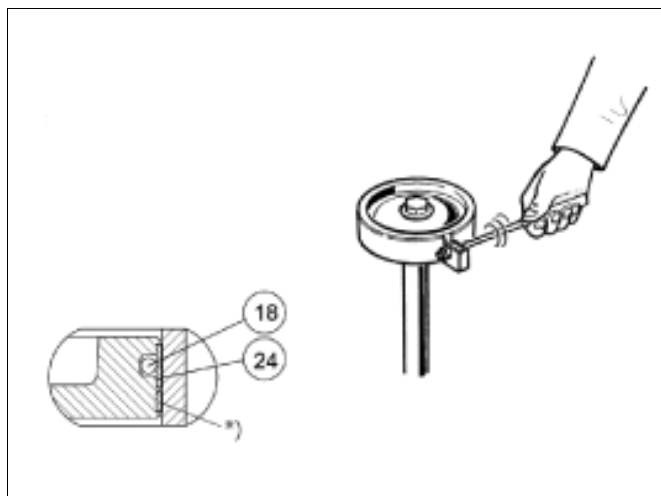

Fig. 8 Tightening piston seals with a tie ring
- Place the O-ring (18) under the piston seals.
- Locate the seals (24) around the piston so that the ends of the strips come on opposite sides. Tighten the strips with the tie ring as shown in Figure 8. The strips marked with an asterisk (*) may be cut 1.5-3 mm shorter to facilitate assembly.